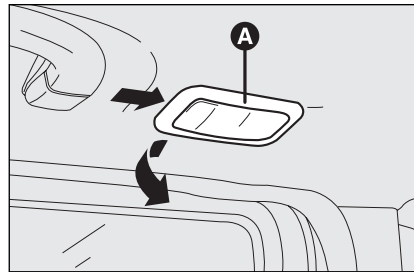

fig. 47
- using the screwdriver provided in the kit, remove the cover **A**-fig. 47 in the point shown by the arrow;